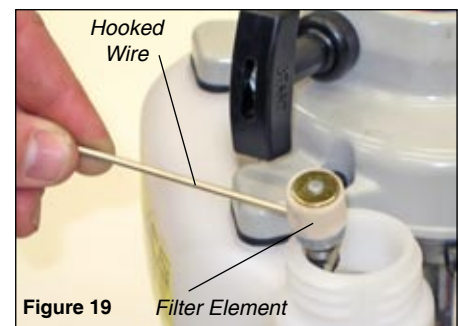

Figure 19
- Use a wire hook to extract the fuel filter from inside the fuel tank. (Figure 19). Inspect the fuel filter element. If it shows signs of contamination from debris, replace it with a genuine Shindaiwa replacement fuel filter element. Before reinstalling the filter, inspect the fuel line. If you discover damage or deterioration, the unit should be removed from service until it can be inspected by a Shindaiwa-trained service technician.